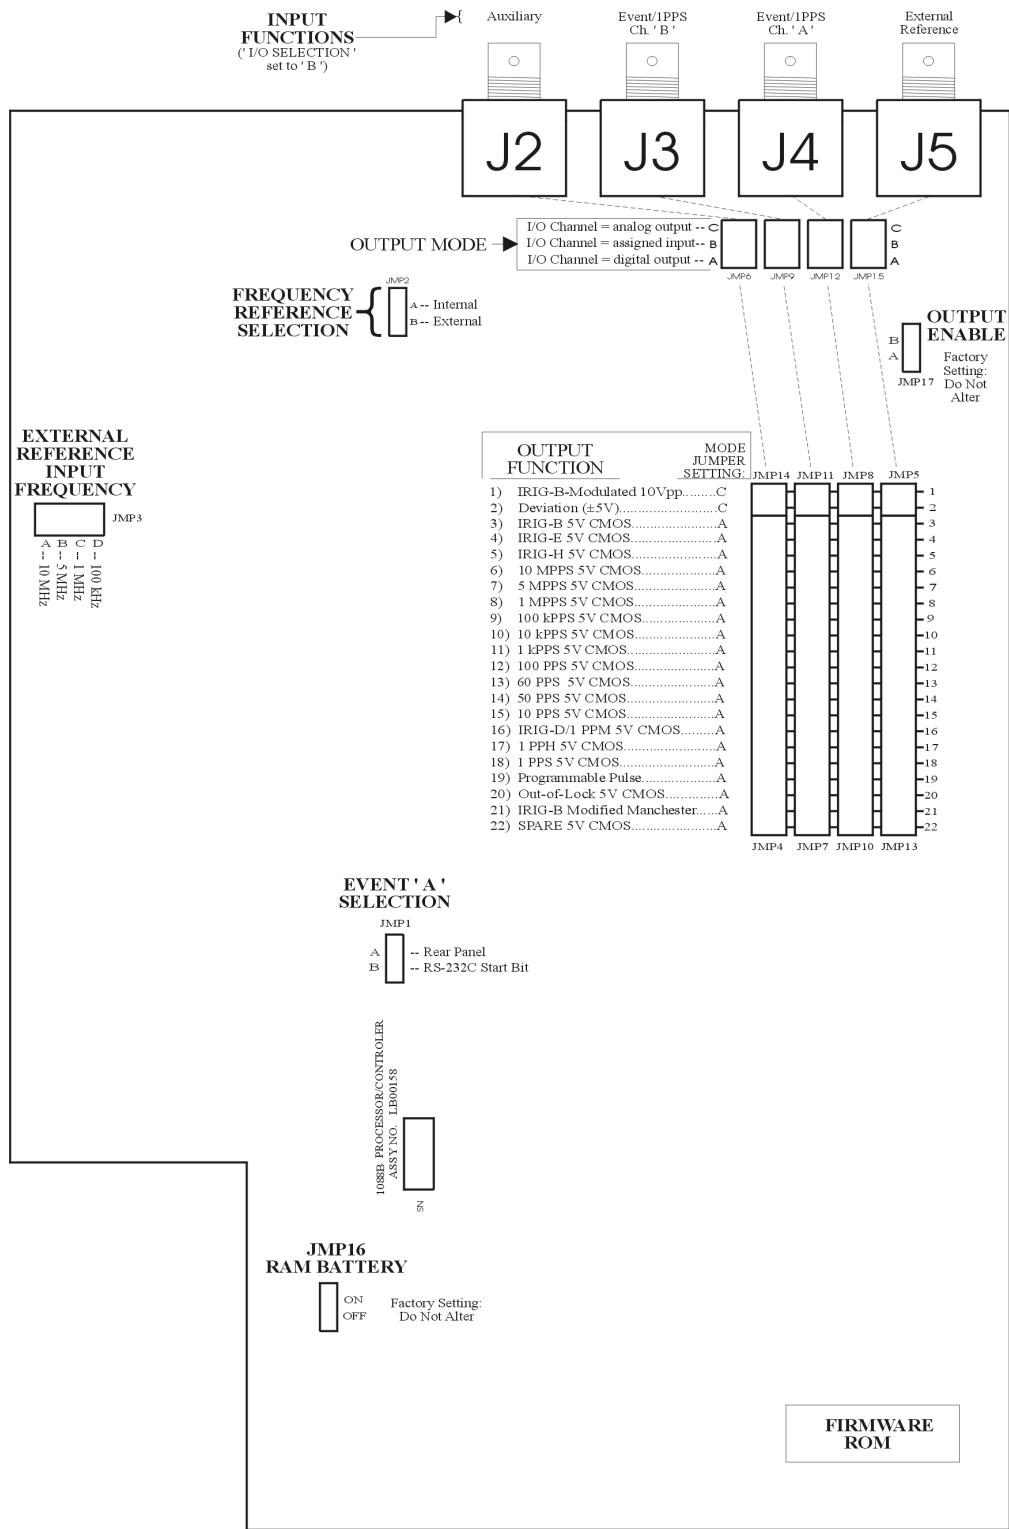

Figure 5.1: Model 1088B Main Board
When changing any of the jumpers you will want to refer to the main board layout diagram in Figure 5.1 to locate jumper positions. Tables 5.1, 5.2 and 5.3 will also help to identify meanings to the various settings.
4. Figure 5.1 illustrates the main board and locates all the jumpers. Also, a label located on the inside of the top cover provides a quick reference for the I/O functions and their respective jumper settings.
Jumpers JMP4, JMP7, JMP10, and JMP13 determine the output signals, which can be made available at I/O connectors J2, J3, J4, and J5, respectively. Figure 5.1 illustrates the relationship between these jumpers and the I/O connectors (the position of some jumpers is slightly different in the Model 1088A). The first step in setting an I/O channel for a specific output signal is to move the associated jumper to the location corresponding to the desired signal. Table 5.2 lists the jumper settings required for various signals. JMP5, JMP8, JMP11 and JMP14 (located at the top of the columns of Output Function jumpers) refer to the two analog signals available from setting jumper positions 1 and 2. They will not be referred to in the setup, but listed for your information.
The next step in configuring the I/O connectors is to determine whether the assigned signal is an analog output, a digital output, or an input (configuring the connectors as inputs is described later in this chapter). Select the output mode by setting jumpers JMP6, JMP9, JMP12, and JMP15 to the appropriate positions. These jumpers correspond to connectors J2, J3, J4, and J5, respectively (see Figure 5.1). If the I/O channel is to be used as a digital output, the corresponding jumper should be set to position “A”. If the I/O channel is to be used as an analog output, the jumper should be set to position “C”. Table 5.2 lists jumper positions for individual output signals.